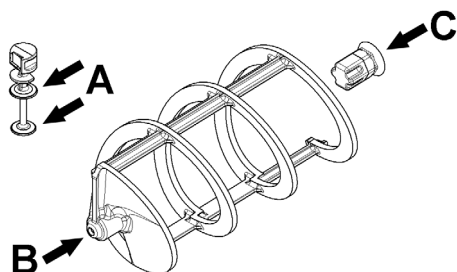

figure 16
- 2 Lubricate the tap piston, the hexagonal joint and the mixer at the points indicated in figure 16, using only the grease that came with the machine or other grease for use with food.